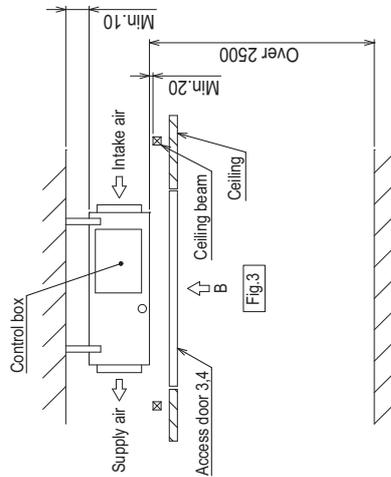

Fig.3
- When a space of less than 300mm is available below the unit between the unit and the ceiling. (At least 20mm of space should be left below the unit as shown in Fig.3.)